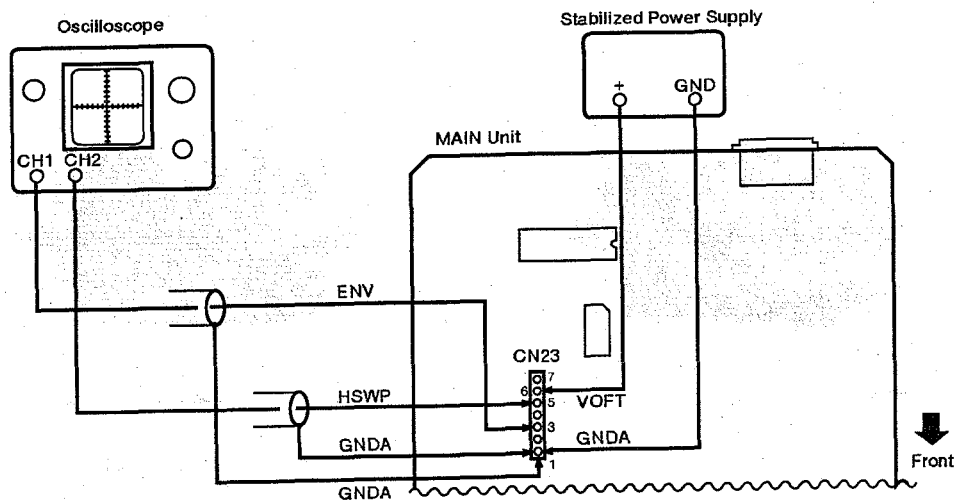

Fig. 2
1. Short-circuit the connectors CN23-7 (XTEST) and CN23-1 (GNDA) of the MAIN unit (refer to Fig. 2 on page 1-19). At this time, "PGM" on the FL tube flashes.